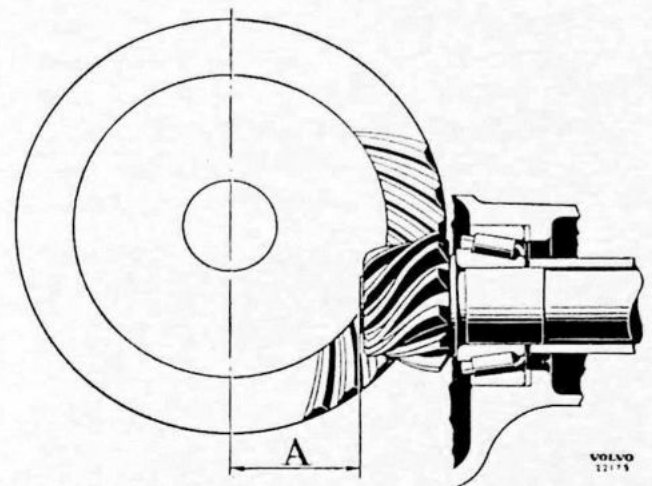

Fig. 35. Pinion position.
5. Check the adjustment of the pinion bearings. The pinion should be relatively easy to turn (9—14 kgem = 8—12 lb in.), but there must be no play. Adjustment is carried out by means of shims (24) on the front pinion bearing.
6. The pinion should have a certain nominal measurement (A, fig. 35) to the center line of the ring gear. Due to manufacturing tolerances, however, deviations from the nominal measurement occur. The deviation applying is indicated on the ground surface of the pinion by a figure and plus or minus sign. If there is a plus (+) sign, then the nominal measurement must be increased but if there is a minus (—) sign, the nominal measurement should be decreased. The figure marked on the pinion indicates the